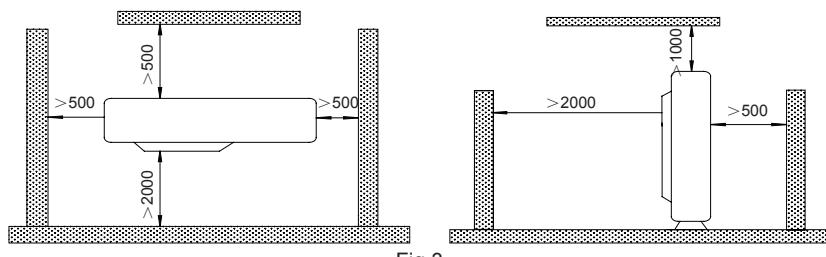

Fig.3
- ① . Install the unit where it will not be tilted by more than 5°.
- ② . During installation, if the outdoor unit has to be exposed to strong wind, it must be fixed securely.
- (1). If possible, do not install the unit where it will be exposed to direct sunlight. (If necessary, install a blind that does not interfere with the air flow.)
- (2). Install the outdoor unit in a place where it will be free from getting dirty or getting wet by rain as much as possible.
- (3). Install the outdoor unit where it is convenient to connect the indoor unit.
- (4). Install the outdoor unit where the condensate water can be drained out freely during heating operation. Do not place animals and plants in the path of the warm air.
- (5). Take the air conditioner weight into account and select a place where noise and vibration are small.
- (6). Install the outdoor unit where it is capable of withstanding the weight of the unit and generates as less noise and vibration as possible.
- (7). Provide the space shown in Fig.3, so that the air flow is not blocked. Also for efficient operation, leave three of four directions of peripheral constructions open.